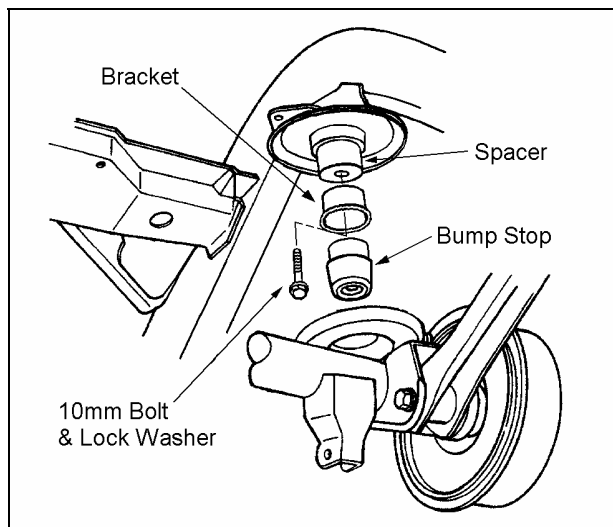

Figure 14
- 2) ☐ Insert Rancho spacer 420027 and reinstall the bracket with the 10mm hardware from kit 860161. Insert the bump stop into the bump stop bracket. See figure 14.